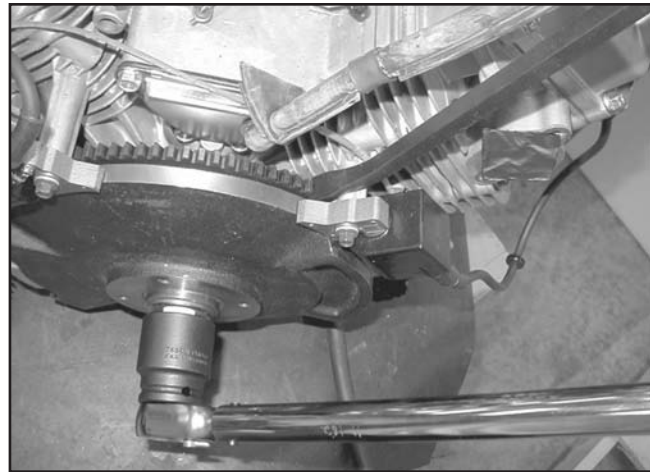

Figure 2-11. Torquing Flywheel Nut
- a. Torque flywheel nut to 204.0 Nm (150 ft. lbs.), Figure 2-11.